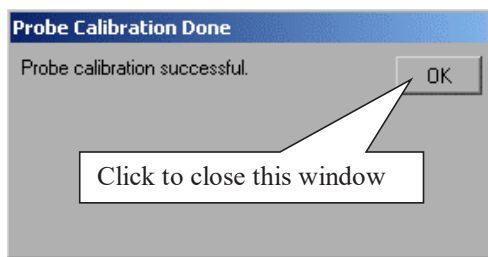

Figure 13 Probe Calibration Done Window.
- 7 Referring to **Figure 13** below, perform the following steps: